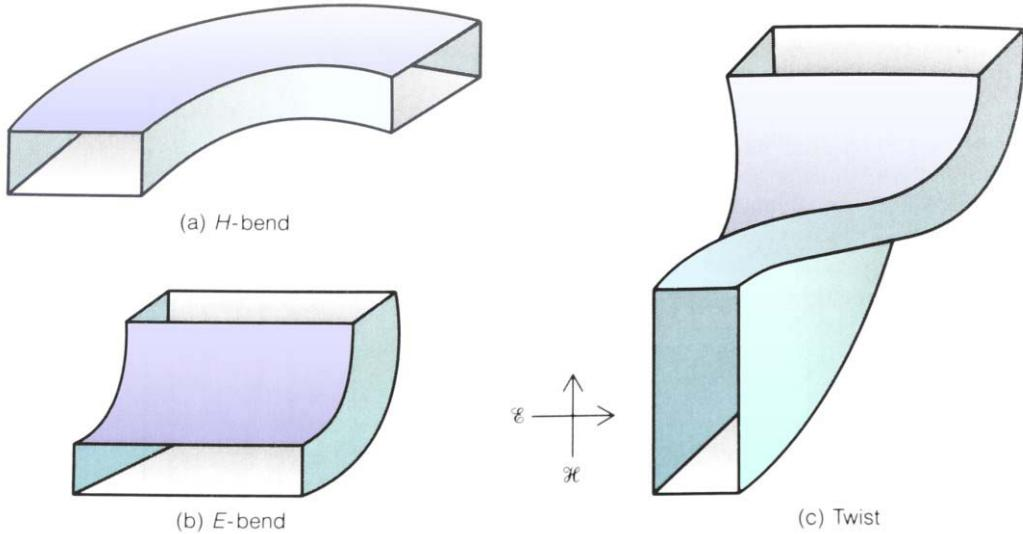

Figure 13-10: Waveguide Bends and Twists
The path between a microwave antenna and radio is seldom a straight line. *Bends* are sections of waveguide that can accommodate the necessary turns in an installation while preserving the desired mode of propagation. Figure 13-10 shows several of these.
The *H* bend of Figure 13-10(a) is used to turn a 90 degree corner. The propagation is undisturbed, except that the magnetic field is bent 90 degrees as it passed through the section. The polarization (orientation of the electric (E) field) is unaffected. The *E* bend also completes a 90-degree turn, in either an upward or downward direction. The magnetic field is undisturbed, but the *E* field is bent by 90 degrees within. The *twist* of Figure 13-10(c) is used to effect a shift in the polarization of the wave. The electric and magnetic fields maintain the same orientation within the waveguide, but because of the gradual twist, their orientation is different at the opposite ends with respect to the outside world.